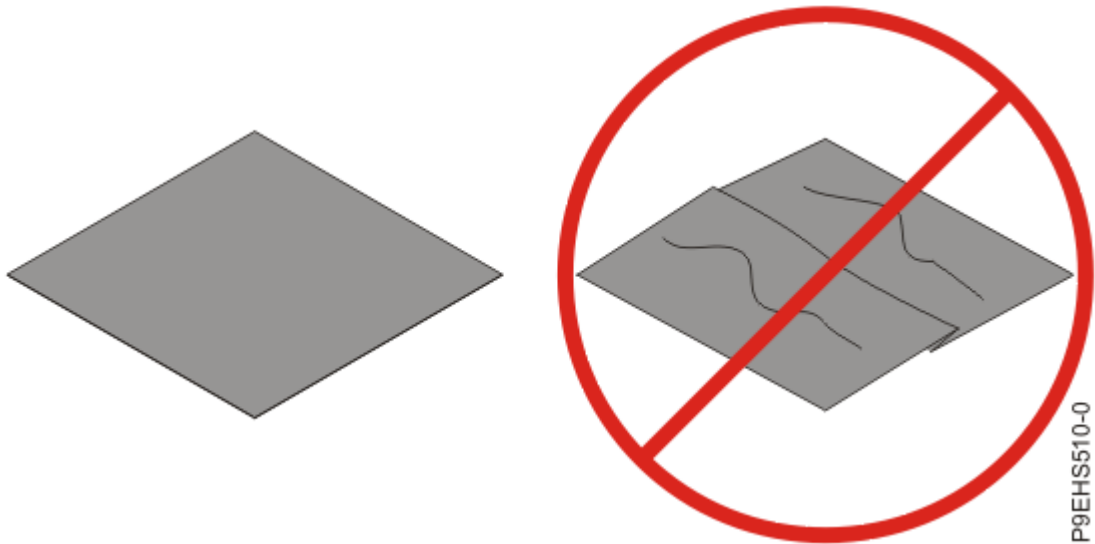

Figure 135. Inspecting the thermal interface material
- 13. Inspect the thermal interface material (TIM) for visible signs of damage, as shown in Figure 135 on page 149. If you see folds, tears, bends, or if you have doubts about the TIM, replace it.